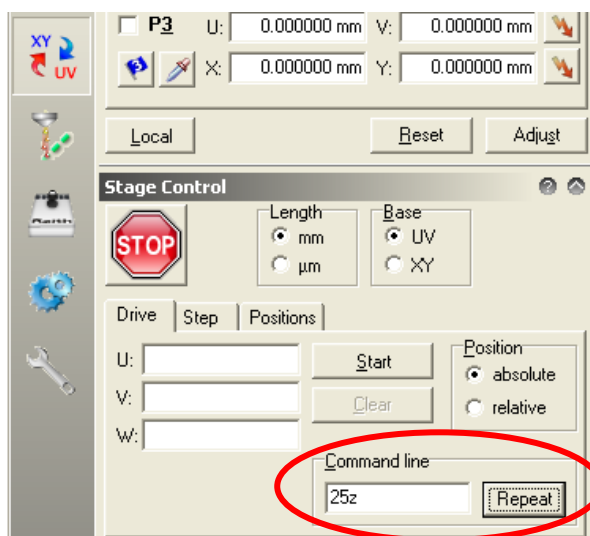

Figure 7: Stage Control
2. Drive the stage to $z=25\text{mm}$, which corresponds to approximately 10mm working distance (this is the distance between final lens and sample. If you are using samples that are thicker than normal wafers (about 0.5mm) you must drive to a lower z position (i.e. less than 25mm) to keep enough distance between sample and final lens. **DO NOT LOAD SAMPLES HIGHER THAN 15MM!** Control the z -position using the Command Line in the Stage Control tab (see fig. 7). You could also use the 'Drive' tab and by setting the base to XY. But it is better to keep them in UV-mode since this is the only operation you will do in the XYZ coordinate-system and it will prevent you from getting confused. Once you have typed the ' z ' into the command line it already starts to move the stage.
3. Sometimes it may be necessary to work at smaller working distances to achieve a better signal-to-noise ratio for imaging. For samples with wafer thickness the software-limits of the stage should prevent you from driving into the final lens. However, a lot of care should be taken when doing this, and this should be always supervised using TV-mode! Note the STOP button in figure 7, which you can use to stop the stage movement at any time.